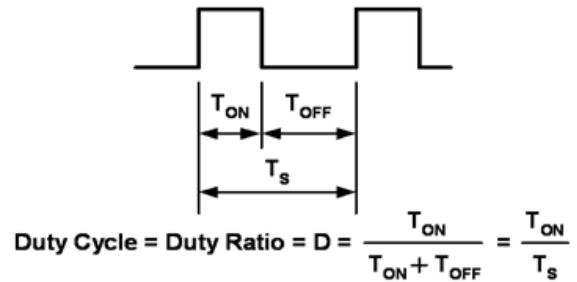

Figure 13.
the human eye will detect a flicker from the light emitted from the LEDs. Between 500 Hz and 20 kHz the circuit may generate audible sound. Dimming is achieved by turning the LEDs on and off for a portion of a single cycle. This on/off cycle is called the Duty cycle (D) and is expressed by the amount of time the LEDs are on ( $T_{ON}$ ) divided by the total time of an on/off cycle ( $T_s$ ) (Figure 13).